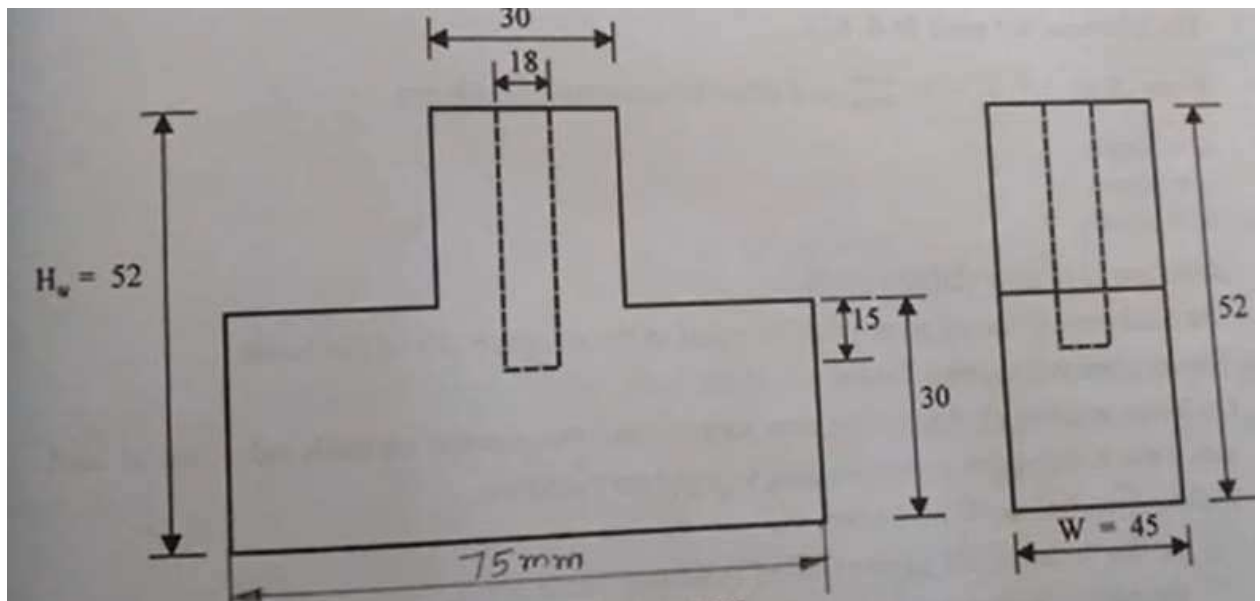

Fig Qn 5 (a)
- a) Design and draw a channel jig for mild steel component as shown in Fig. Qn 5 (a) to drill a hole of 18 mm diameter. All dimension are in mm. (7 marks)